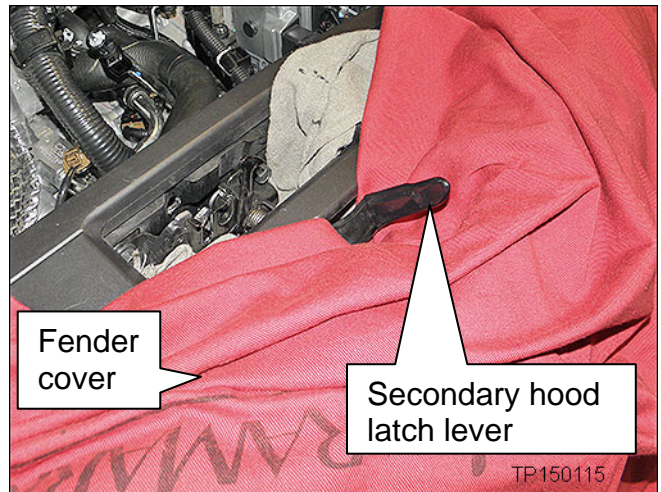

Figure 2
3. Place a clean fender cover to protect the front fascia as shown in Figure 2.